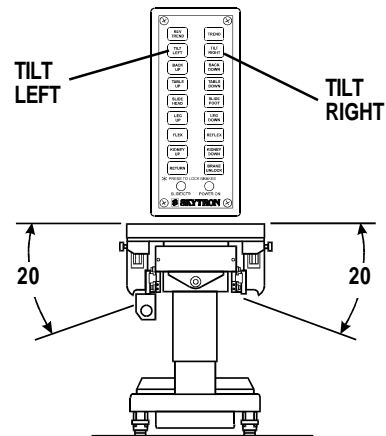

Figure 2-5. Lateral Tilt Positioning
c. Lateral Tilt. To achieve lateral tilt right (as viewed from the head end of the table), press the TILT-RIGHT button (figure 2-5). Tilt of up to 20° may be obtained. To achieve lateral tilt left, press the TILT-LEFT button. Tilt of up to 20° may be obtained.